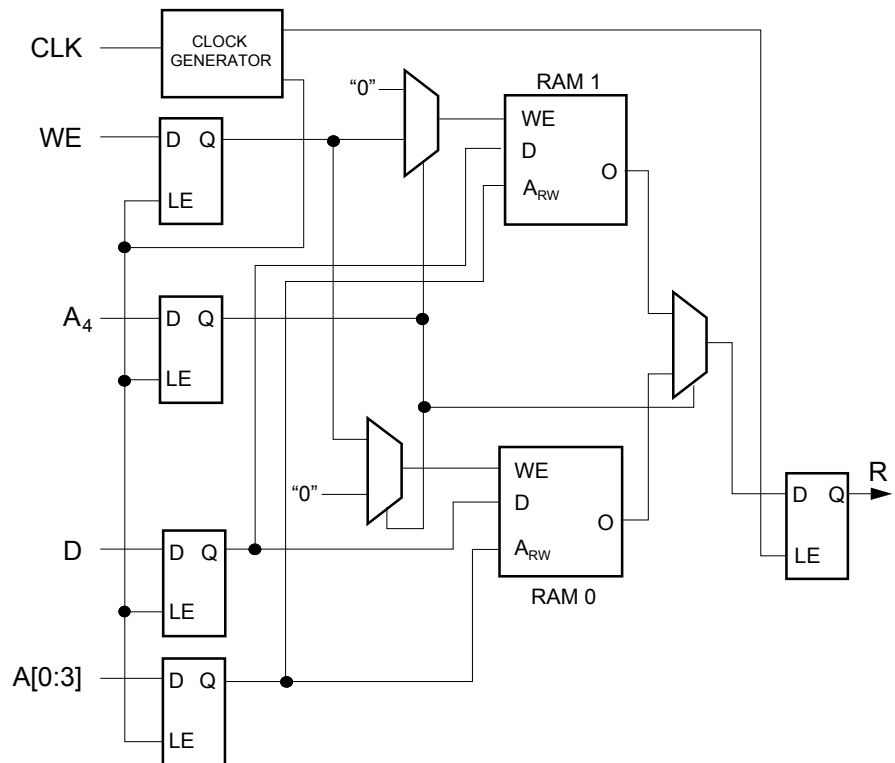

Figure 12: 32x1 Single Port RAM
Figure 12 shows the configuration for the 32x1 Single Port RAM. There are 5 bits for address (A0 - A4), a data input (D), a write enable (WE) and a clock input. All 7 inputs are totally synchronous to the clock. Just like an edge triggered flip flop, the only timing requirement is that all setup and hold times must be obeyed. When WE is HIGH, the RAM is in the write mode. Data presented on the D input will be written to the location specified by addresses A0 - A4. During a write cycle, the output of the RAM is in an unknown state. When WE is LOW, the RAM is in the read mode. The data stored in the location specified by A0 - A4 appears on the output after the rising edge of the clock. This is a single clock operation. The WE and A0 - A4 are set-up before the rising edge of the clock and the data stored in the RAM appears after the rising edge of the clock.